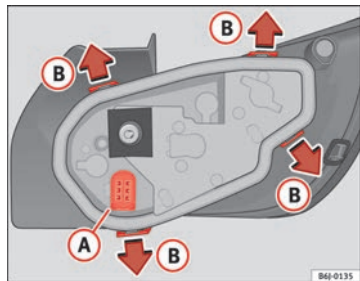

Fig. 163 Changing bulbs on tail lights
- Remove the bulb holder, separating it from the casing. To do this, press tabs (B) in the direction of the arrows ⇒ fig. 163.